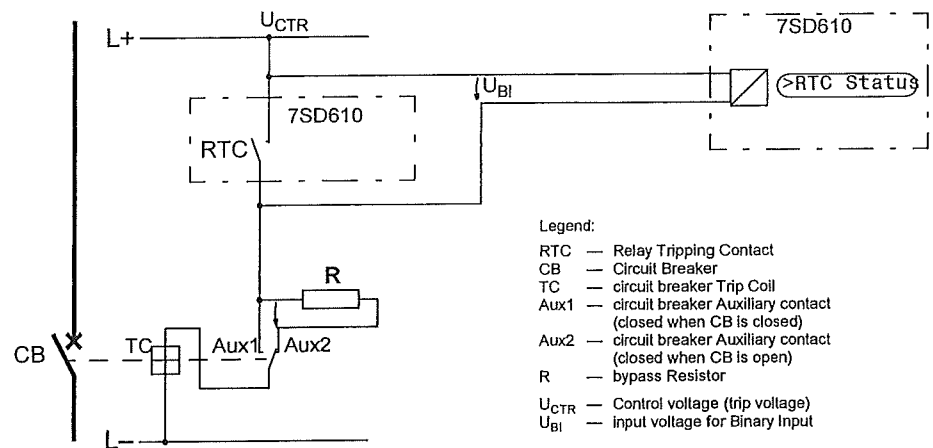

Figure 3-4 Trip circuit supervision with one binary input
If *one* binary input is used, a bypass resistor R must be employed (refer to Figure 3-4). This resistor R is connected in series with the second circuit breaker auxiliary contact (Aux2), to also allow the detection of a trip circuit failure when the circuit breaker auxiliary contact 1 (Aux1) is open, and the command relay contact has reset. The value of this resistor must be such that in the circuit breaker open condition (therefore Aux1 is open and Aux2 is closed) the circuit breaker trip coil (TC) is no longer picked up and binary input (BI1) is still picked up if the command relay contact is open.